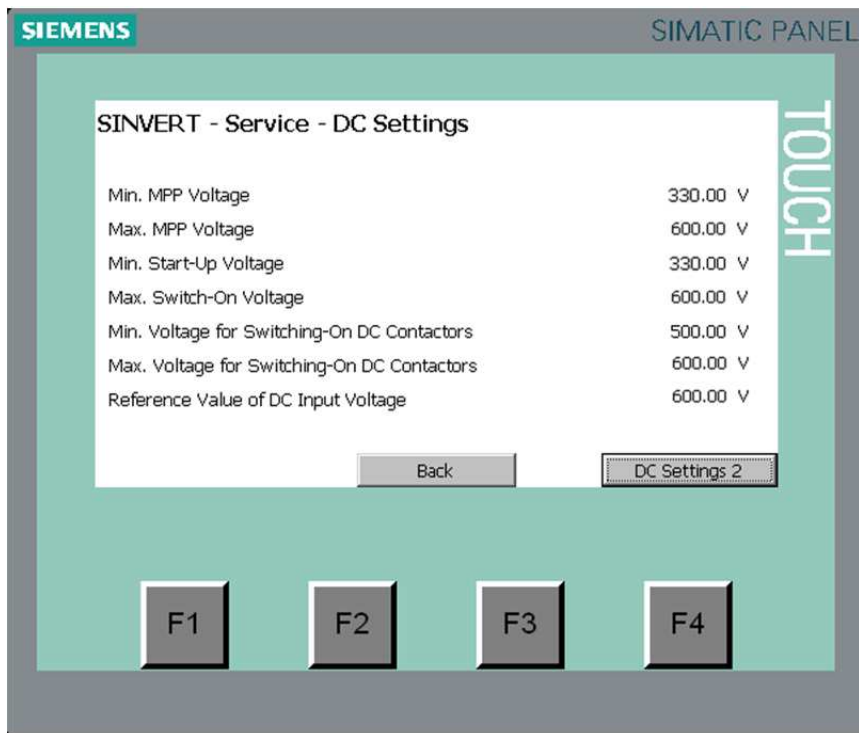

Figure 8-32 DC settings
- set the MPP window (see Figure 8-32 DC settings),